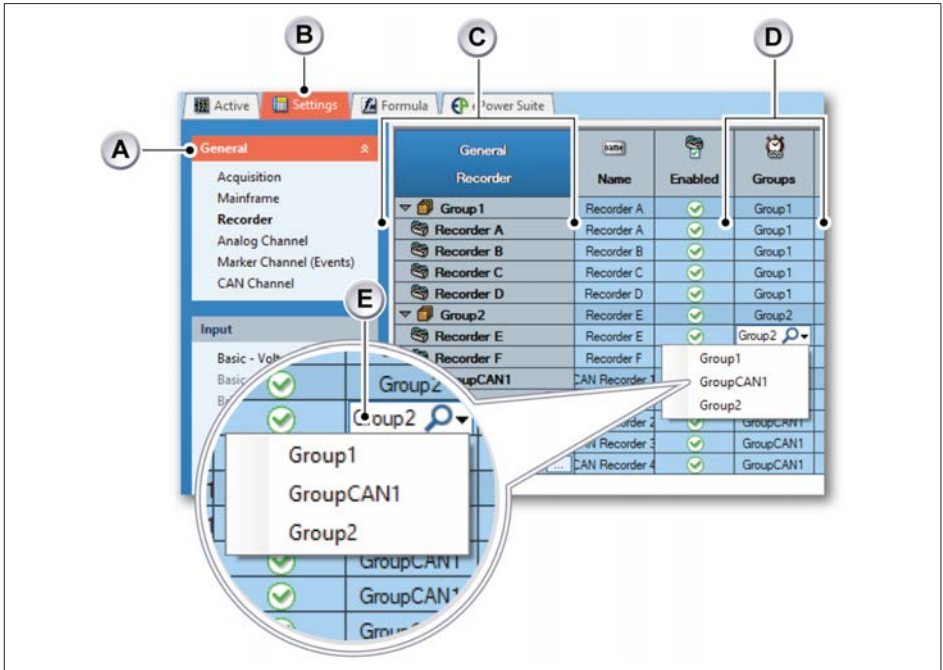

Fig. 9.1 Example of assigning a recorder to a group
A measurement setup may consist of several **Recorders (C)** or **Acquisition Cards** distributed over one or more mainframes. Perception recorders or acquisition cards can be collected in **Groups (D)**. The user can select which cards should be in which group. All the cards in a group have the same sample rate but different groups may have different sample rates. To assign a recorder to a group, go to the **Settings (B)** sheet tab and click **Recorder** in the **General** area (A) (as shown in Fig. 9.1). Double-clicking an entry in the **Groups (C)** column allows assigning this recorder to an existing group or by typing a new name, create a new group.